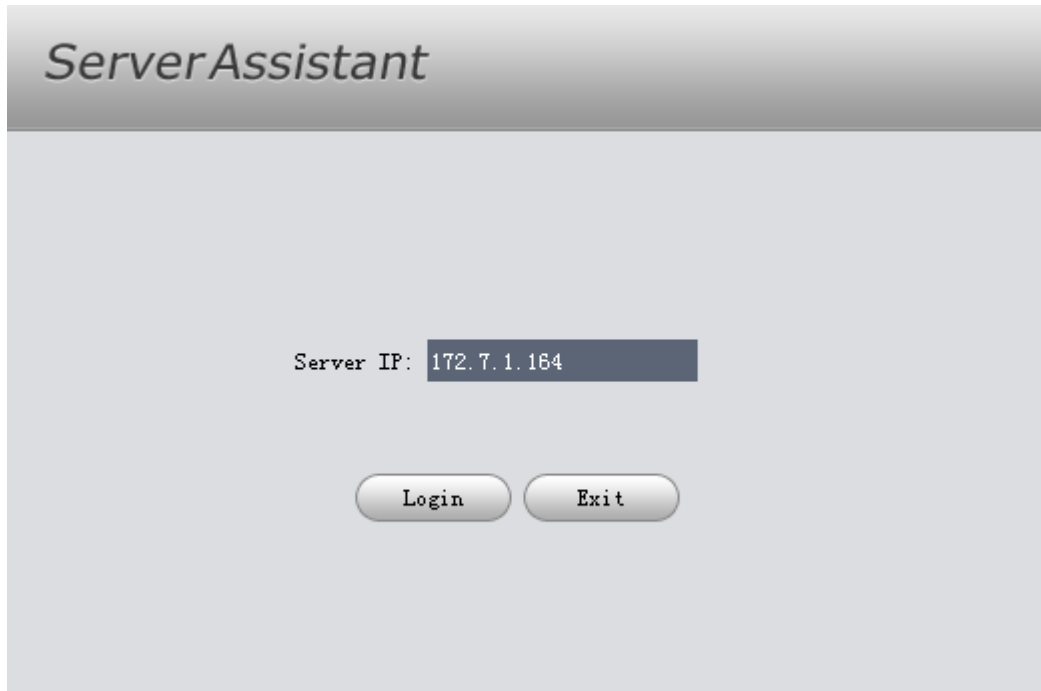

Figure 2-7
- 2) After the installation, from Start->All Programs->Server Assistant->Server Assistant. System pops up the following login interface. See Figure 2-7.